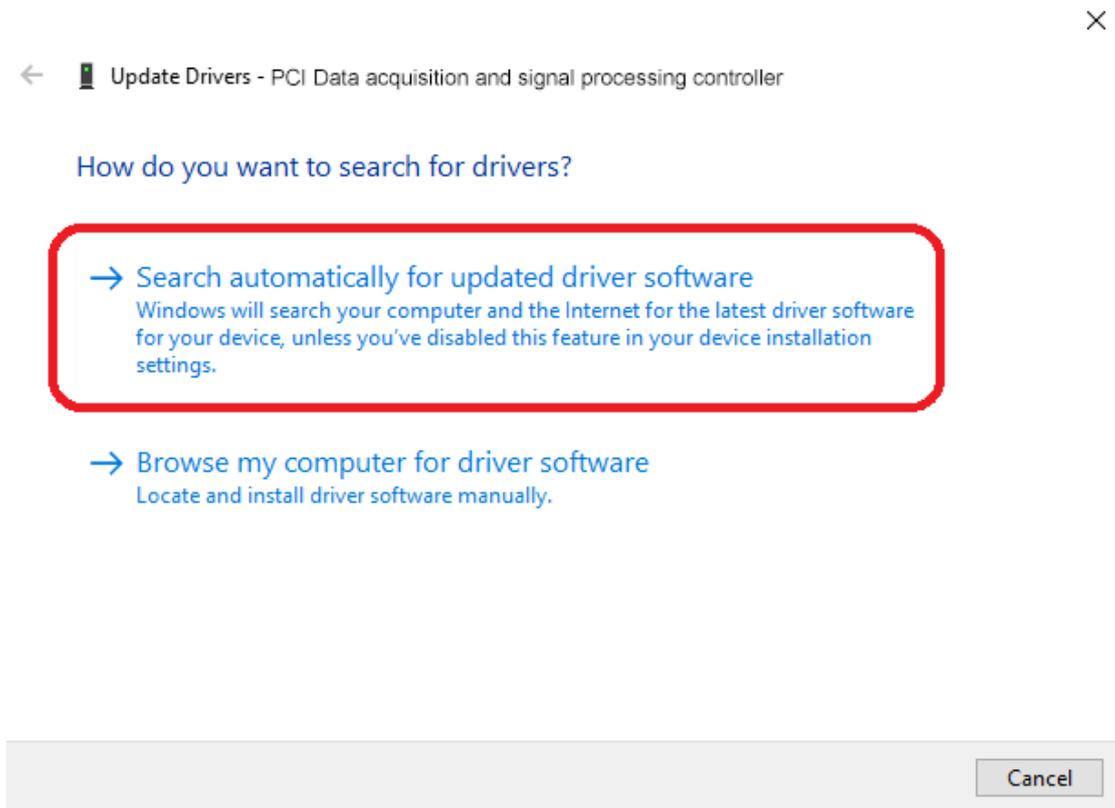

Figure 2.4 Browse my computer for driver software
- 2) Select "PCI Data Capture and Signal Processing Controller", right-click and select "Update Driver". Select "Browse my computer to find driver software" in the pop-up dialog box, as shown in Figure 2.4 below.